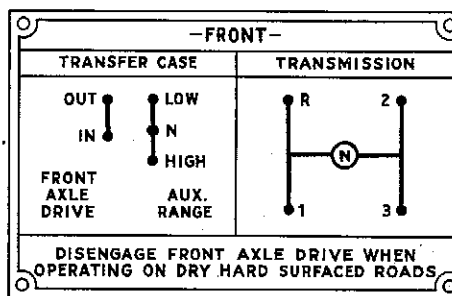

Fig. 3
The plate illustrated in Figure 3 is fastened to the instrument panel to assist operators who are not familiar with the
2. Make sure the transfer case auxiliary range lever is pulled backward to the high speed range as indicated on the instruction plate (Figure 3).